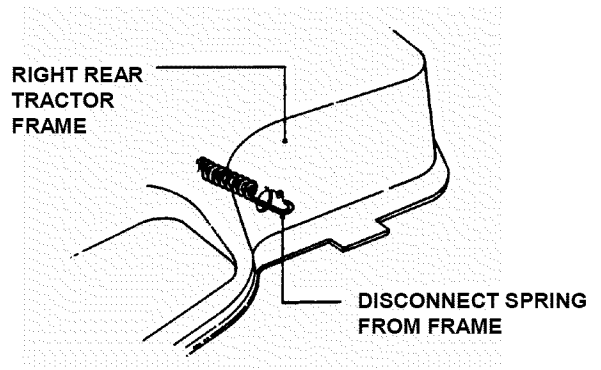

FIGURE 4.23
13. Disconnect traction belt idler pulley spring from tractor frame. See Figure 4.23.